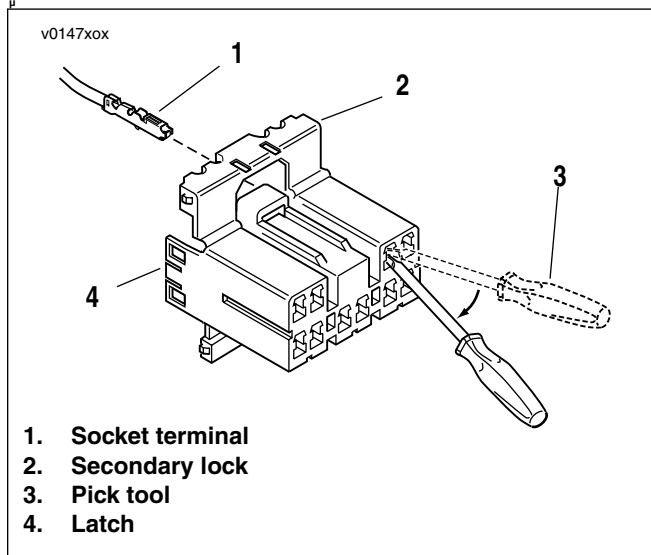

Figure 8-8. Multilock Socket Terminal Removal
- a. See Figure 8-8. Bend back latches to open the secondary lock. See AMP MULTILOCK ELECTRICAL CONNECTORS in VRSC Models Service Manual.